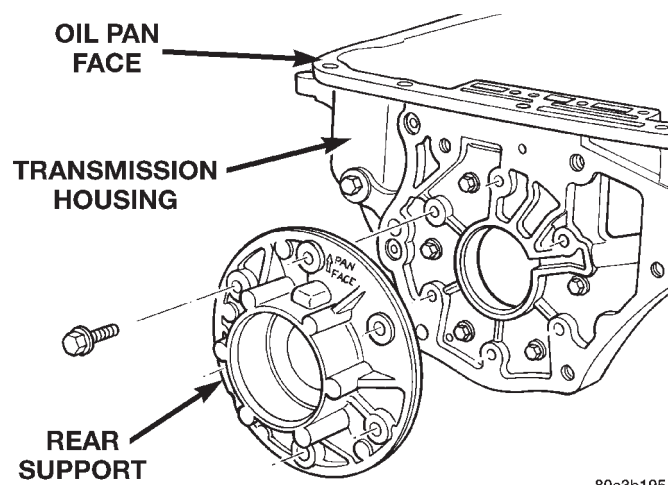

Fig. 82 Rear Support
(28) Remove bolts attaching rear support to transmission case and pull support from low-reverse drum (Fig. 82).